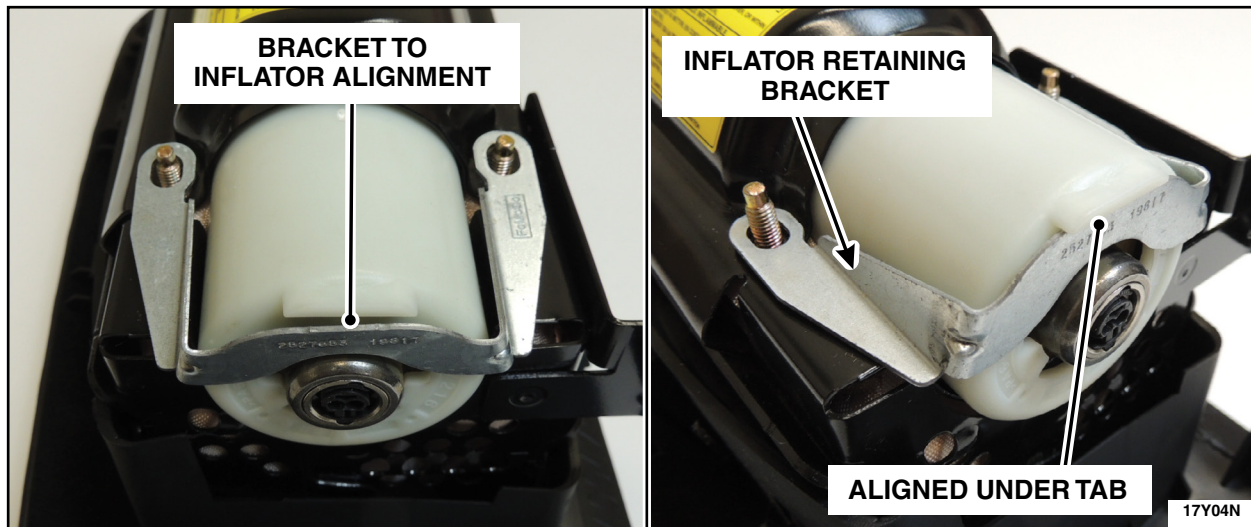

FIGURE 10
10. Align and Install the inflator retaining bracket. See Figure 10.